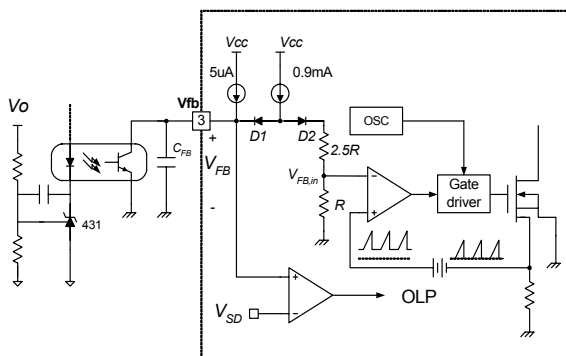

Figure 5. Pulse Width Modulation (PWM) Circuit
**2. Feedback Control :** The FSDx0365RNB employs current mode control, as shown in Figure 5. An opto-coupler (such as the H11A817A) and shunt regulator (such as the KA431) are typically used to implement the feedback network. Comparing the feedback voltage with the voltage across the  $R_{sense}$  resistor plus an offset voltage makes it possible to control the switching duty cycle. When the KA431 reference pin voltage exceeds the internal reference voltage of 2.5V, the optocoupler LED current increases, the feedback voltage  $V_{fb}$  is pulled down and it reduces the duty cycle. This event typically happens when the input voltage is increased or the output load is decreased.
**4.3 Over Voltage Protection (OVP) :** In the event of a malfunction in the secondary side feedback circuit, or an open feedback loop caused by a soldering defect, the current through the opto-coupler transistor becomes almost zero (refer to Figure 5). Then, VFB climbs up in a similar manner to the over load situation, forcing the preset maximum current to be supplied to the SMPS until the over load protection is activated. Because excess energy is provided to the output, the output voltage may exceed the rated voltage before the over load protection is activated, resulting in the breakdown of the devices in the secondary side. In order to prevent this situation, an over voltage protection (OVP) circuit is employed. In general, Vcc is proportional to the output voltage and the FPS uses Vcc instead of directly monitoring the output voltage. If VCC exceeds 19V, OVP circuit is activated resulting in termination of the switching operation. In order to avoid undesired activation of OVP during normal operation, Vcc should be properly designed to be below 19V.